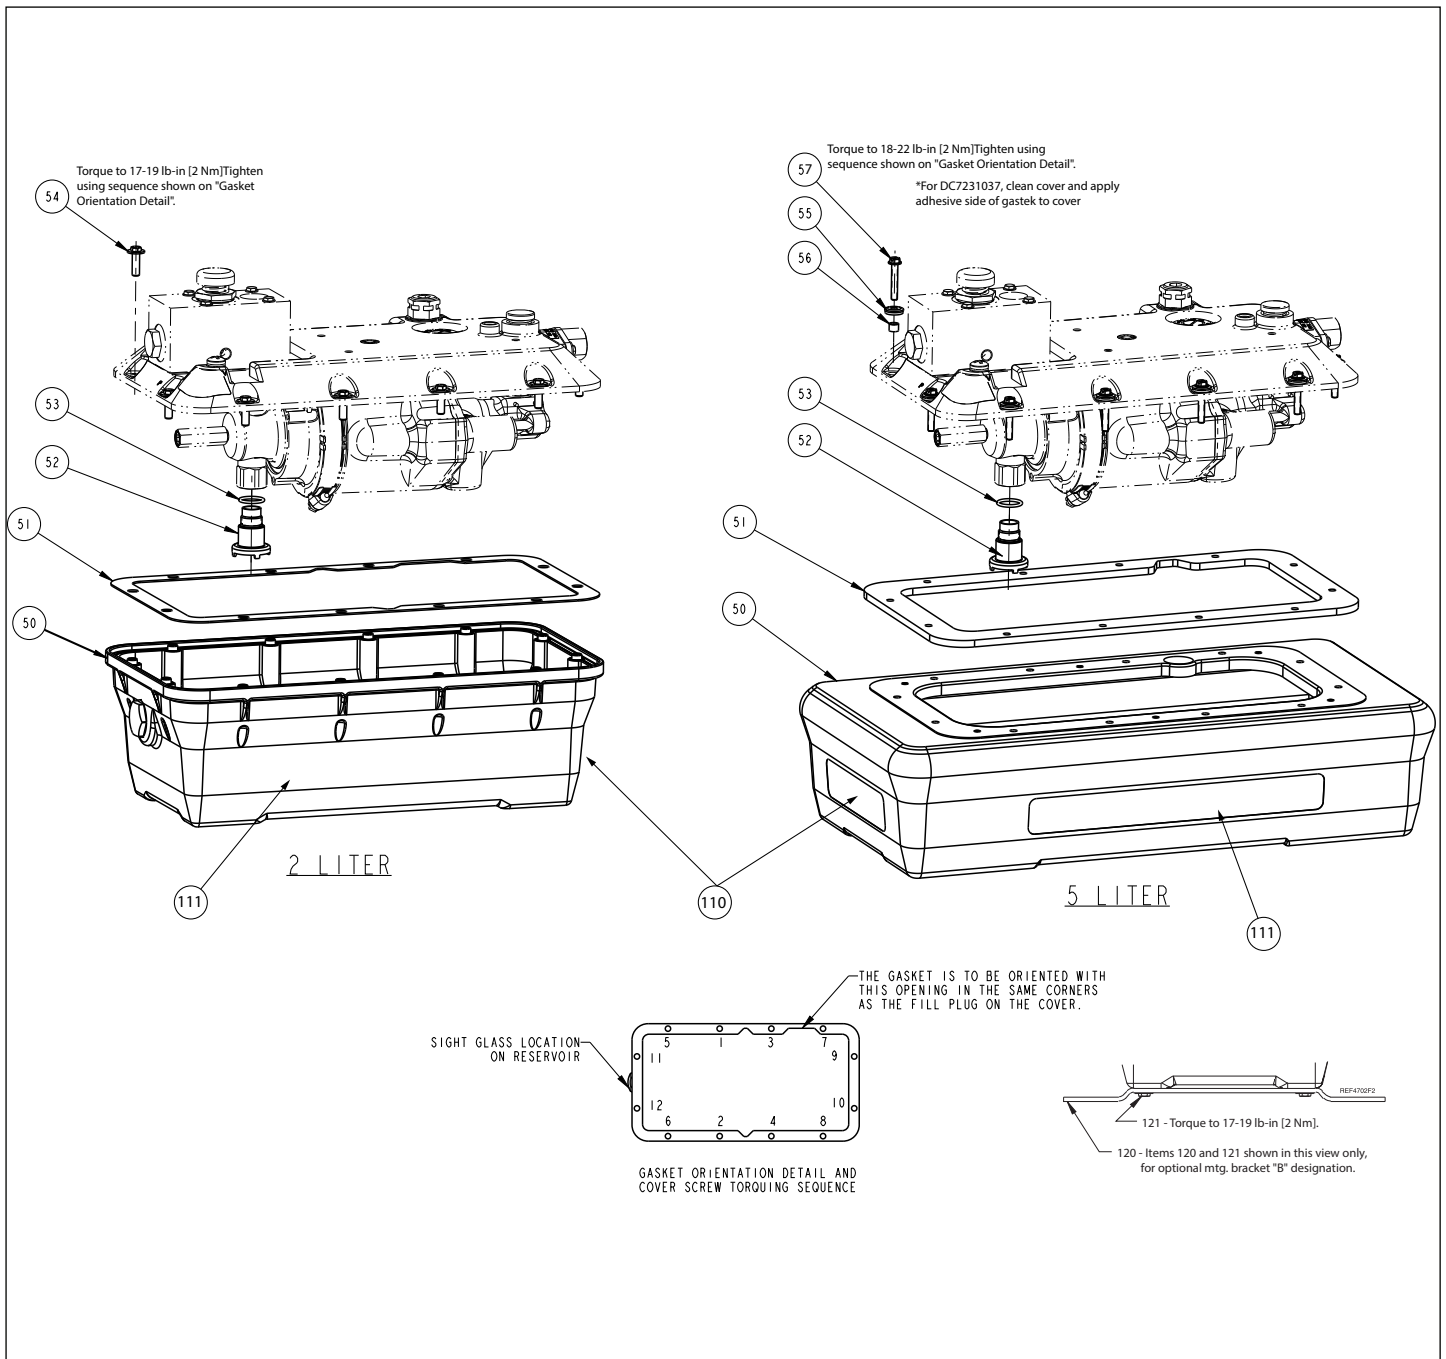

Figure 1, Reservoir Assemblies
5. Replace pump cover. See Figure 1 for gasket orientation detail and cover screw torquing sequence.
Repair Parts List for Figure 1